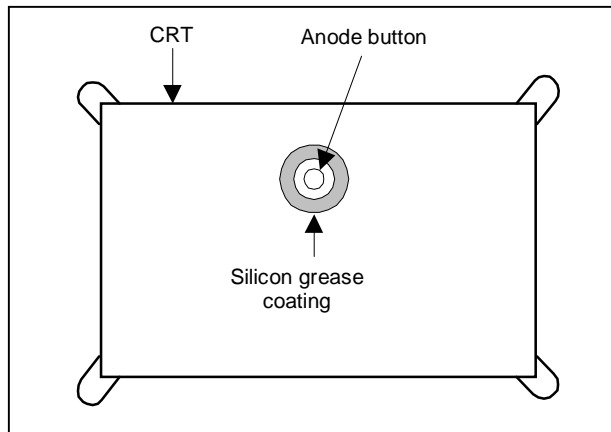

Fig. 6
- Subsequent to replacement of the CRT and HV transformer or repair of the anode cap, etc. by dismounting them, be sure to coat silicon grease for electrical insulation as shown in Fig.6. Wipe around the anode button with clean and dry cloth. (Fig.6)